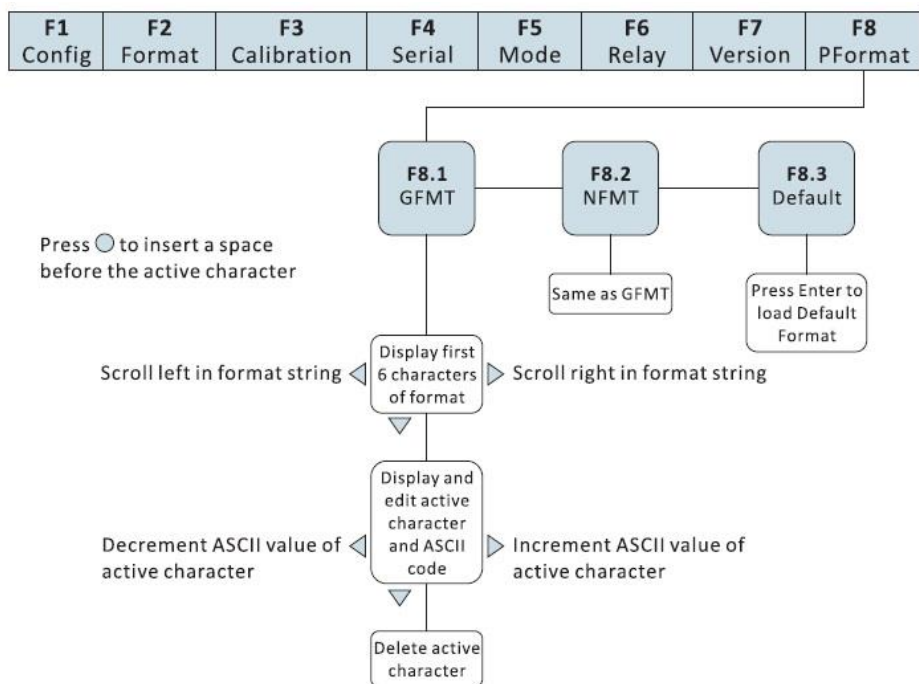

Fig. 13.2.1 Print Format Input Flow Diagram
- (1) Move the jumper of SW2 to CFG setting to switch the indicator to Configurations mode (display will show "F1").
- (2) Press  multiple times until it reach to "F8" (see Fig. 13.2.1). Press  to Print Format Menu and will show "F 8.1".
- (3) When display shows "F8.1", press  again and display shall show the default or programmed printing format string of GFMT. When format string is not showing, we need to load the defaults using the F8.3 menu. Go to F8.3 then press the tare key. It will display "SET ?". Press the tare key again to confirm to load the default formats.
- (4) Use ,  to move the cursor in highlighting the character of the printing format string. Once character is highlighted it will be flashing.
- (5) To insert character between two characters, highlight the character at the right then press  to add a space. Once a space is added at the left, press  to insert a character value.
- (6) To edit a character in the string, highlight the character by moving the cursor into it then press . Use  or  to select the decimal equivalent for the ASCII character. Refer to ASCII Codes Table at Appendices section 15.5. Once the decimal equivalent is selected for the character, press  to return to the string.
- (7) To delete a character in the string, highlight the character by moving the cursor into it then press . It will show the decimal equivalent value. Press the  again and it will return to the string and the character selected is deleted.
- (8) Once the printing format string in F8.1 (GFMT) is completed, press  to go to F8.2 (NFMT) then press  to open the NFMT printing format string. Follow the instructions above starting from step # 4 to step # 7 in inputting the commands for the printing format.
- (9) Here is a sample printing format string: <G>Gross<nL><E>. Refer to Table 13.1 Print Format Commands for the detailed guides of print commands. Remember always to place the <E> command of your string otherwise it will not get operational.
- (10) Once the programming is done, move back the jumper of SW2 to DFT to exit from Configurations mode then press the print key to print the programmed data.
- (1) Move the jumper of SW2 to CFG setting to switch the indicator to Configurations mode (display will show “F1”).
- (2) Press  multiple times until display shows “F8” (see Fig. 13.2.1). Press  to go to Print output menu and display will show “F8.1”.
- (3) When display shows “F8.1”, press  twice until display shows “F8.3”.
- (4) Press  and display will show “Set?”. There are 2 options:
- (5) Move back the jumper of SW2 to DFT to exit from Configurations mode
- (2) Press  multiple times until display shows "F7" (see Fig. 13.2.1). Press  to go to F7.1 Menu.